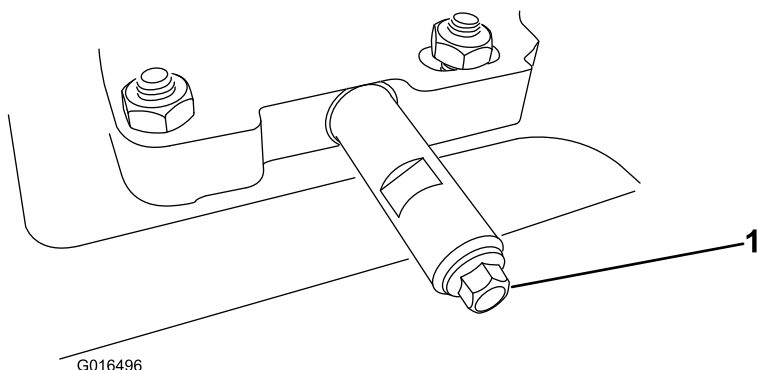

Figure 52
1. Clean the area around the oil drain cap (Figure 52).